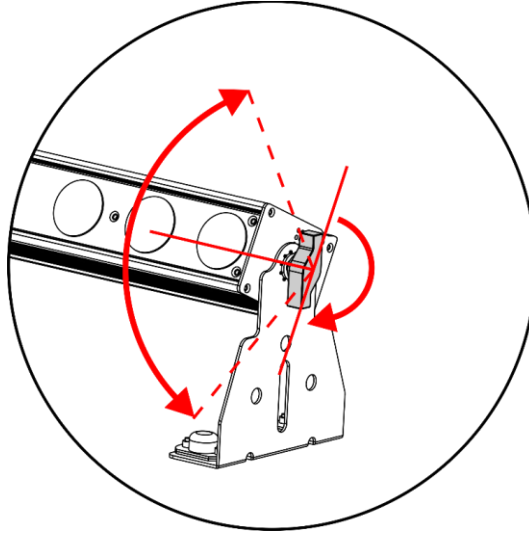

Fig. 08
- 01) Turn the **adjustment screws (02)** counterclockwise to release them.
- 02) Tilt the device at the desired angle (see Fig. 08).
- 03) Turn the **adjustment screws (02)** clockwise to tighten them. Make sure that the device cannot move freely after the **adjustment screws (02)** are tightened.